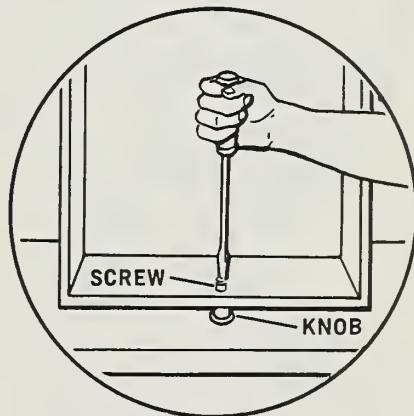

Fig. 1
1. Tighten handles or knobs with screwdriver from the inside of the drawer. (Fig. 1)